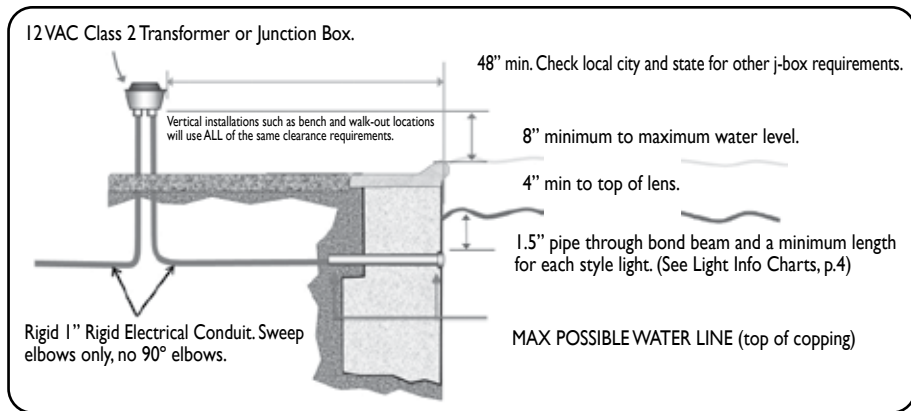

Figure 1: VÜ Nicheless Light installation with standard 1.5" plastic fitting.
NOTE: A licensed electrician must complete the below preparatory steps prior to the light fixture being installed (see figure 1).
1. The junction box or the low-voltage transformer must be located at least eight (8) inches (measured from the inside of the bottom of the junction box or transformer) above the MAXIMUM water level, OR at least four (4) inches above the ground level or pool deck, whichever is greater. The junction box or transformer must also be installed at least forty-eight (48) inches (4 ft.) from the edge of the pool. (see figure 1).
2. A standard 1.5" plastic wall / return fitting (not included) must be installed so that the top edge of the VÜ Nicheless LED Lights lens is at least four (4) inches (10.2 cm) below the surface of the pool water.